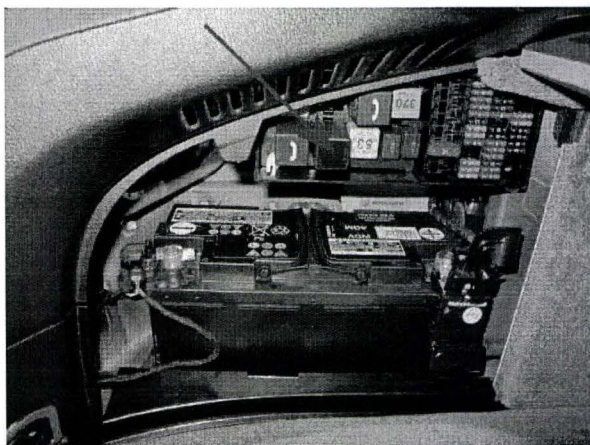

Figure 9
4. Ensure the ignition is switched off then remove the L/H boot panel and locate the servotronic control unit (Figure 9)